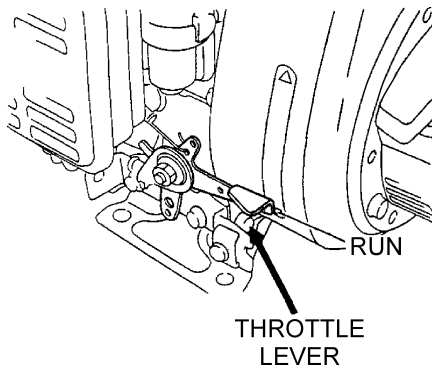

Figure 26. Throttle Lever (Run Position)
9. To begin mixing, place the throttle lever (Figure 26) in the "**RUN**" position